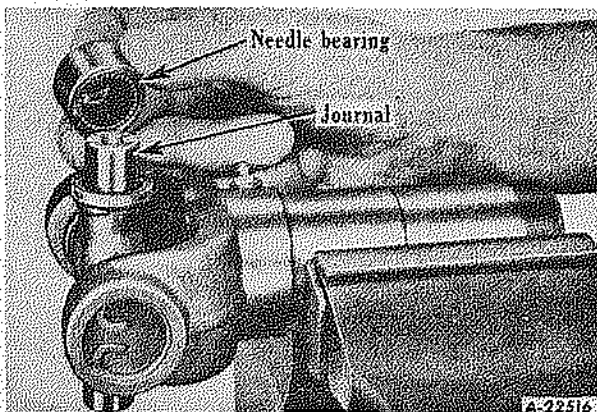
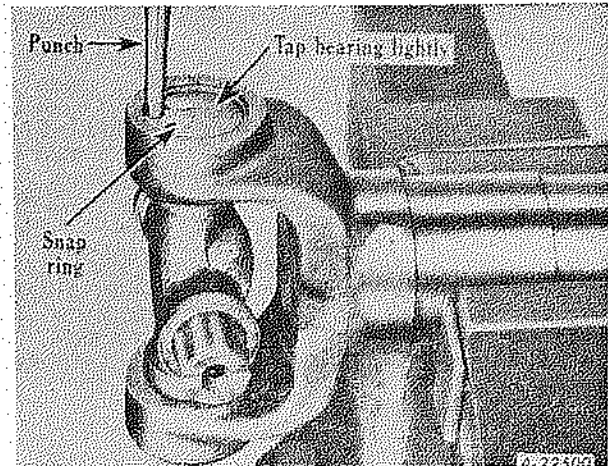

Fig. 2
Fig. 3
- C. Using a small punch, tap end of needle bearing assembly to loosen snap ring. Move needle bearing only enough to break bearing assembly away from snap ring (Fig. 3), which shows a universal joint after the flange yoke has been removed. Fig. 2 illustrates a typical needle bearing assembly.